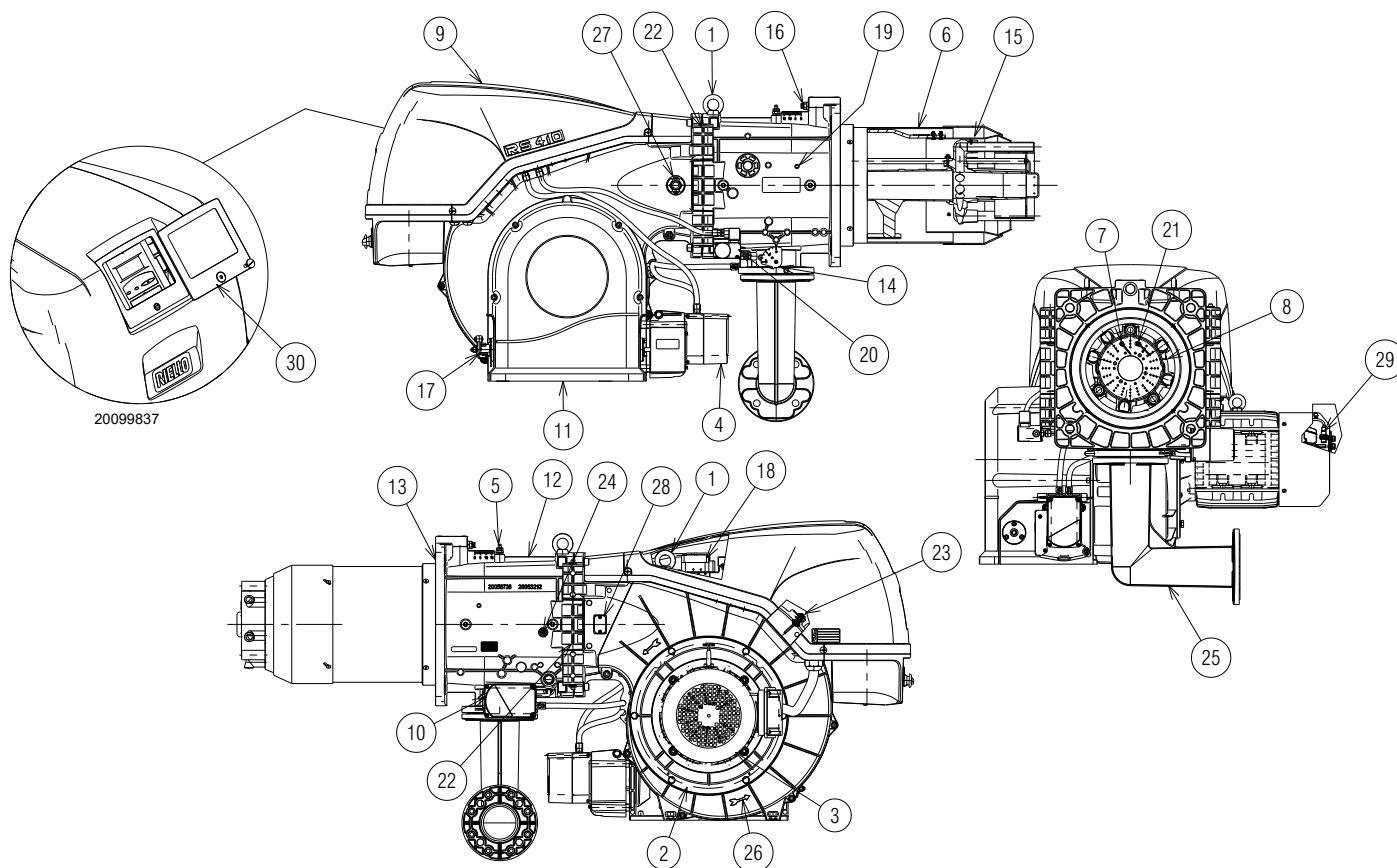

Fig. 5
- (1) Reference conditions: Ambient temperature 20°C - Gas temperature 15°C - Barometric pressure 1013 mbar - Altitude 0 m a.s.l.
- (2) Pressure at the test point of the pressure switch 5)(Fig. 5 on page 12) with zero pressure in the combustion chamber and at maximum burner output.
- (3) Sound pressure measured in manufacturer's combustion laboratory, with burner operating on test boiler and at maximum rated output. The sound power is measured with the "Free Field" method, as per EN 15036, and according to an "Accuracy: Category 3" measuring accuracy, as set out in EN ISO 3746.